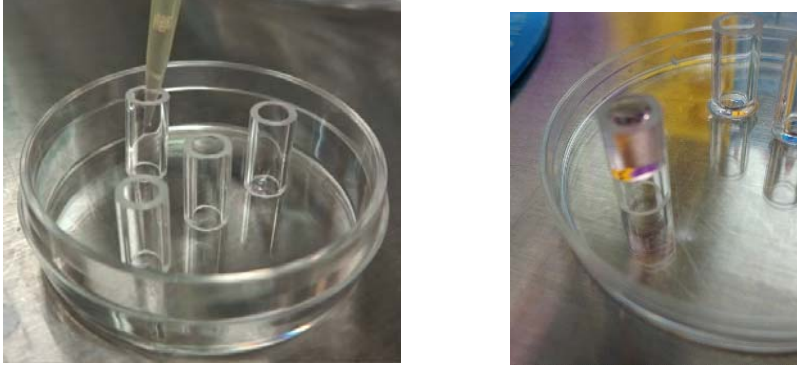

Figure 3. Moisten the inside of the cloning rings (left) and cell suspension sticking in the middle of cloning ring (right).
- Moisten the inside of the cloning ring by pouring **Neural Plating-XF Medium** (Figure 3, left).
- This process will help prevent the cell suspension from sticking in the middle of cloning ring (Figure 3, right).